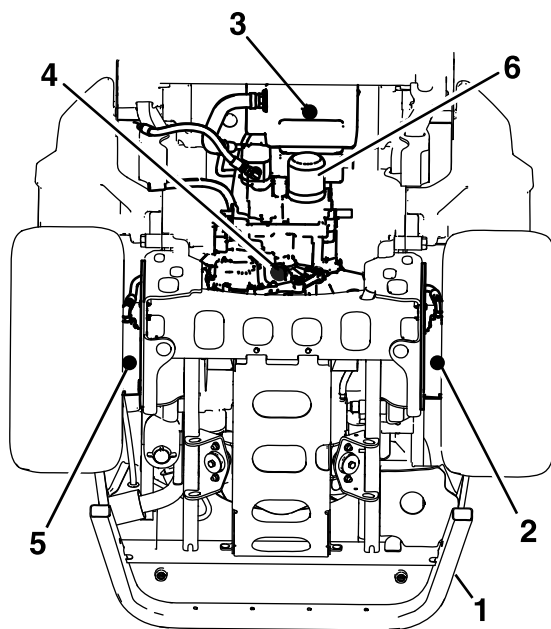

Figure 70
4. Place a large drain pan under the hydraulic reservoir, transmission case, and the left and right wheel motors (Figure 70).
5. Remove the drain plugs from each area and allow the hydraulic fluid to drain (Figure 70).
6. Clean the area around the hydraulic-fluid filter and remove the filter (Figure 70).